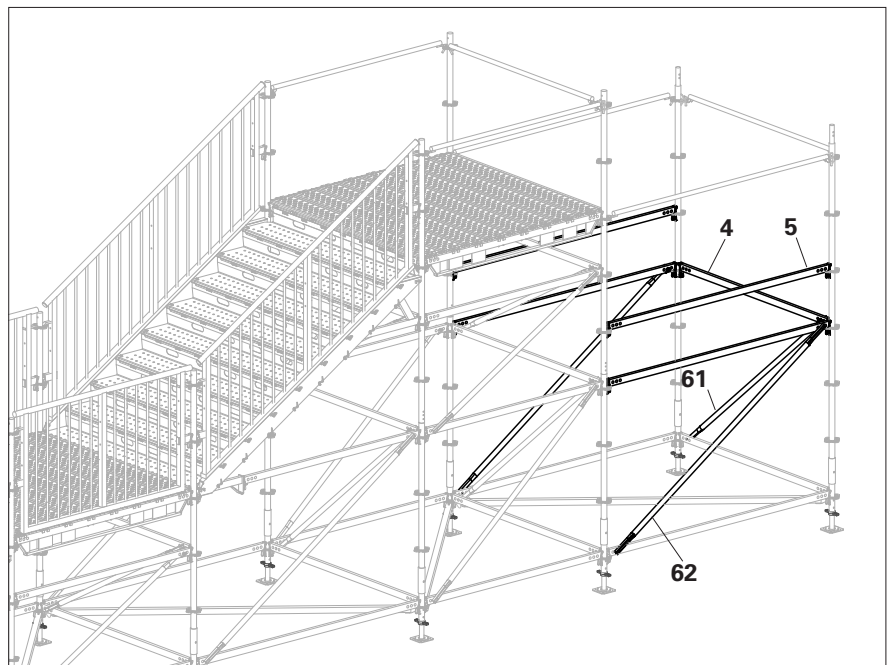

Fig. C1.17
6. Fit 4 x Horizontal Ledger UH-2 250 (**5**) & 1 x Horizontal Ledger UH-2 200 (**4**). (Fig. C1.17)